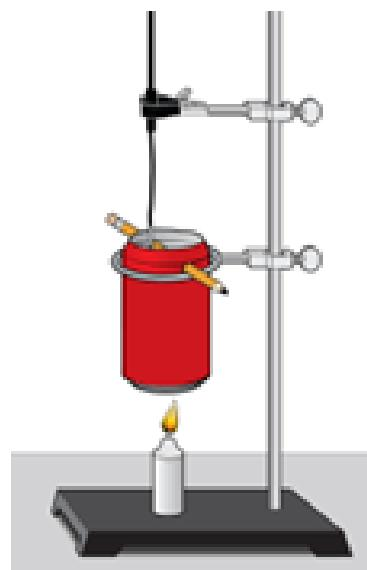

Figure 2: Experimental setup
6. Set up the equipment (see Figure 2).